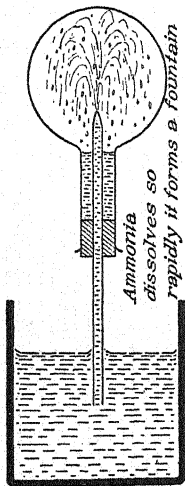

FIG. 132. — Ammonia gas is extremely soluble in water.
14. If one fills a flask with ammonia gas, stoppers the flask with a stopper carrying a long jet tube, and then holds the end of the tube in water as shown in Fig. 132, the water slowly rises in the tube and then spurts up into the flask. Explain.